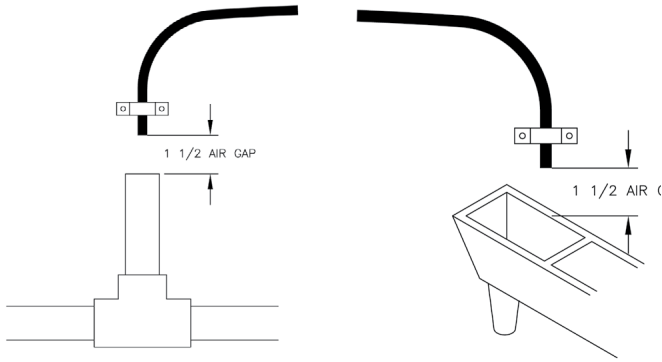

Figure 7 Required Air Gap for Drain Line
2. If the drain line is a 5/8" flexible poly tube, slide the nut onto the poly tube, then place the poly tube insert into the end of the poly tube and tighten the nut on to the 3/4" drain line fitting. The nut is only designed for use with flexible poly tube. Use other nuts if attaching different materials. Run line to a drain, making sure you have a 1 1/2" air gap. You may use a floor drain, standpipe, or any open type drain. (See Figure 7.)